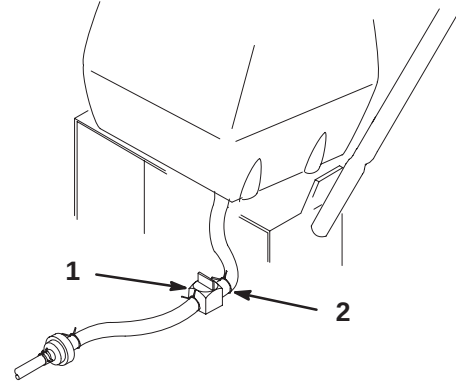

Figure 40
2. Close fuel shut-off valve at fuel tank (Fig. 40).
3. Squeeze the ends of the hose clamp together and slide it up the fuel line away from valve (Fig. 40).
4. Pull the fuel line off the valve (Fig. 40). Open fuel shut-off valve and allow gasoline to drain into a gas can or drain pan.
3. Close fuel shut-off valve at fuel tank (Fig. 40).
7. Open fuel shut-off valve at fuel tank (Fig. 40).
8. Check for fuel leaks and repair if needed (Fig. 40).